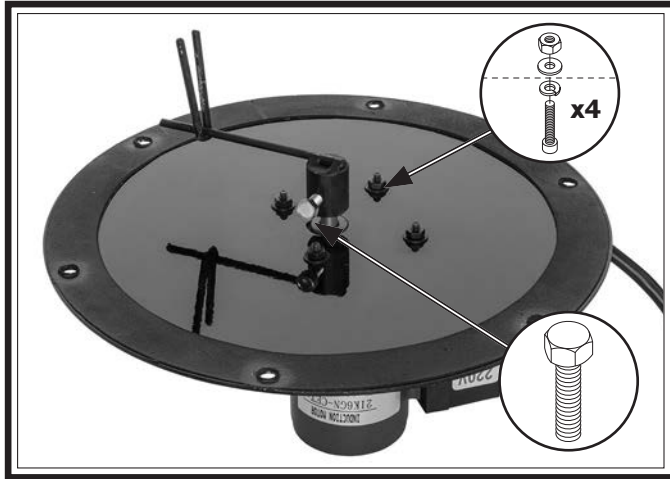

Figure 19. Filter cover assembly.
14. Attach filter brush motor and gear reducer to filter cover with (4) M4-.7 x 60 cap screws, 4mm lock washers, 4mm flat washers, and M4-.7 hex nuts (see **Figure 19**).
15. Attach upper alignment arm to gear reducer spindle with M6-1 x 16 hex bolt (see **Figure 19**).